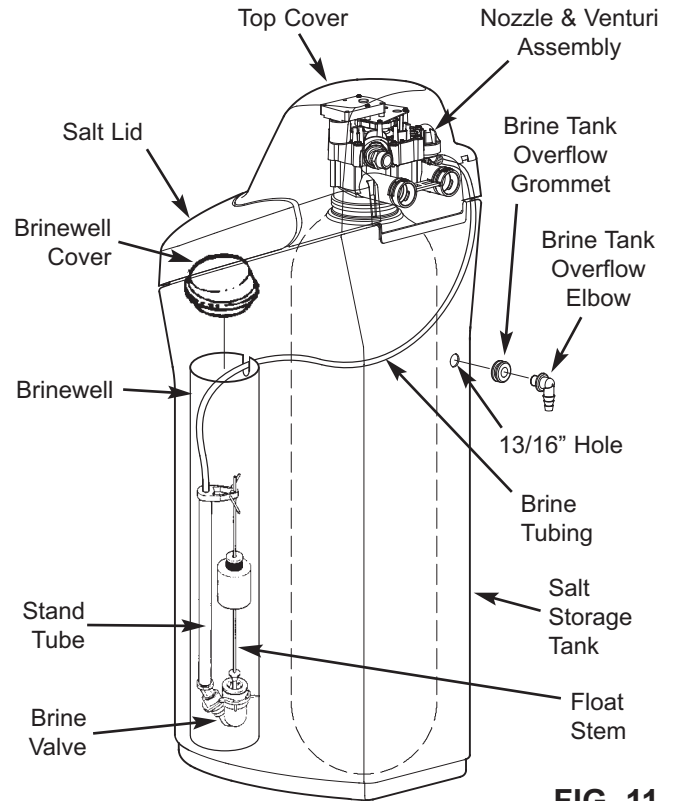

FIG. 11
1. Morton® water softener models are factory assembled. During installation, unsnap and remove the top cover, together with the salt lid, to expose the softener valve assembly. Set them aside to prevent damage. Check the brinewell to be sure it is secured and vertical (See Figure 11).
2. Install the brine tank overflow grommet and elbow into the 13/16" diameter hole in the back of the salt storage tank wall (See Figure 11).